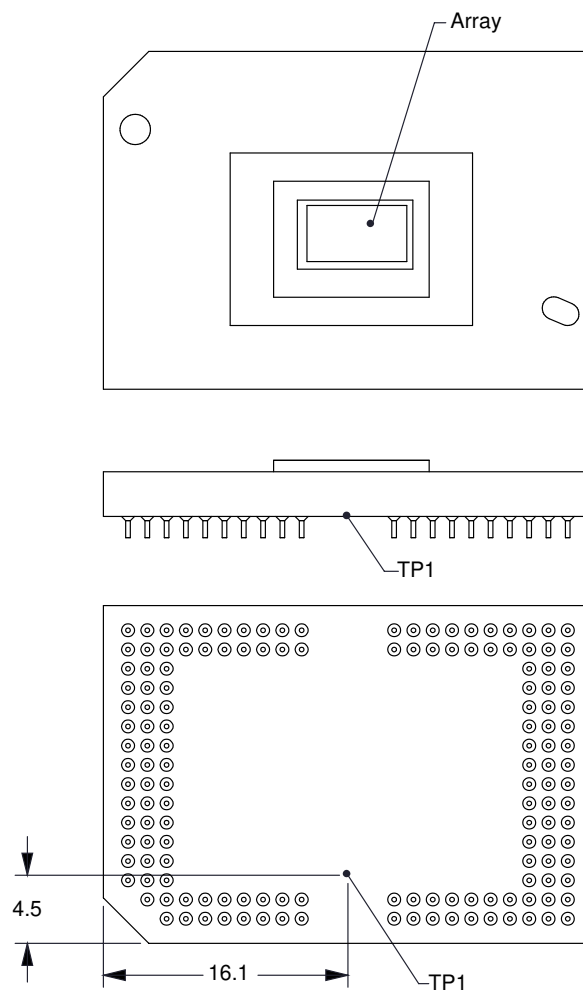

Figure 17. Thermocouple Locations
Relationship between array temperature and the reference ceramic temperature (thermocouple location TP1 in Figure 17) is provided by the following equations.
- T_{CERAMIC} = measured ceramic temperature (TP1 location in Figure 17) (°C)
- DMD Absorption Constant = 0.42 (2)